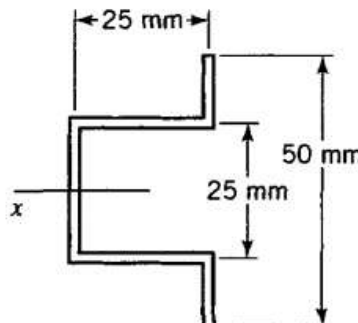

Figure-1
3. Locate the shear center for the beam cross section shown in Figure-1. The walls of the cross section have constant thickness, $t = 2.00$ mm.